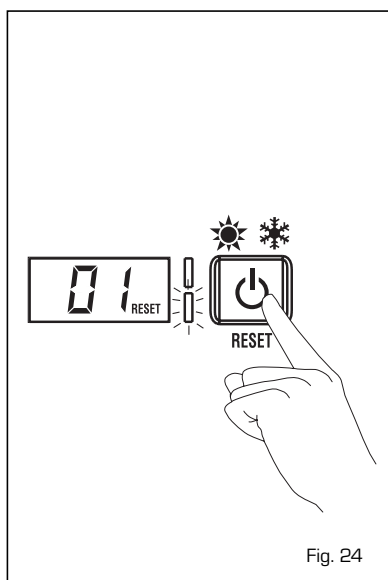

Fig. 24
- ANOMALIE ÉVACUATION FUMÉES "AL 01" (fig. 24)
- ANOMALIE BASSE PRESSION EAU "AL 02" (fig. 24/a)